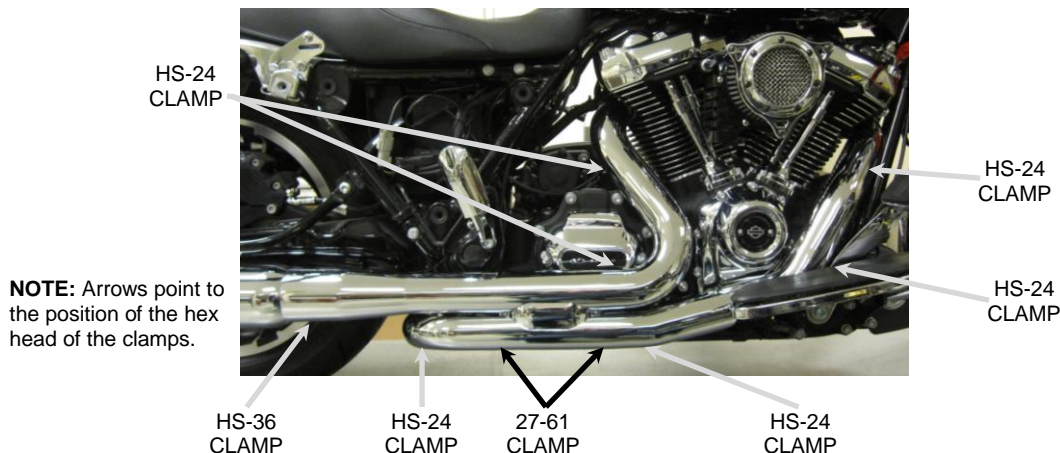

FIGURE 6
18. Remove the heatshields and hose clamps from packaging. Unscrew the hose clamps and feed the tail end of the clamps through the clips on the inside of the heatshield so the screws are accessible with a screwdriver once the heatshield is installed. The large HS-36 hose clamp goes on the rear clip on the rear heatshield. See **FIGURE 6 & 8** for proper positioning of the clamps on the heatshields. (**NOTE: The arrows point to the positioning of the hex head of the clamps.** The hex head of the clamps should be accessible for tightening but not visible when the heatshields are mounted to the pipes.)
19. Install the right rear heatshield over the rear headpipe. (Hint: Spread the hose clamps apart slightly to make it easier to slide them over the headpipes.) Align the heatshield with the headpipe and the collector heatshield. There should be an even gap around the collector heatshield. Snug the clamps but **DO NOT TIGHTEN** at this time. See **FIGURE 6 & 7**.
20. Install the right front heatshield over the right front headpipe. (Hint: Spread the hose clamps apart slightly to make it easier to slide them over the headpipes.) Align the heatshield with the headpipe and the collector heatshield. There should be an even gap around the collector heatshield. If the heatshield does not align well with the collector heatshield then the rear crossover pipe may need to be loosened and pushed forward or backward. When the heatshield is aligned properly snug the clamps but **DO NOT TIGHTEN** at this time. See **FIGURE 6 & 7**.